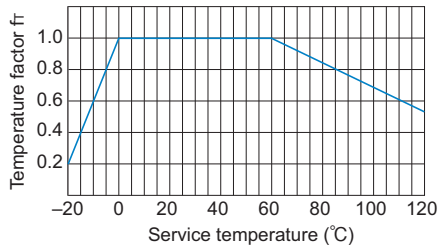

Fig.2 Temperature Factor
If the temperature of the change nut exceeds the normal temperature range, the seizure resistance of the nut and the strength of the material will decrease. Therefore, it is necessary to multiply the dynamic permissible torque (T) and the dynamic permissible thrust (F) by the corresponding temperature factor indicated in Fig.2.
- f_T : Temperature factor (see Fig.2)
- F : Dynamic permissible thrust (N)
- P_F : Axial load (N)